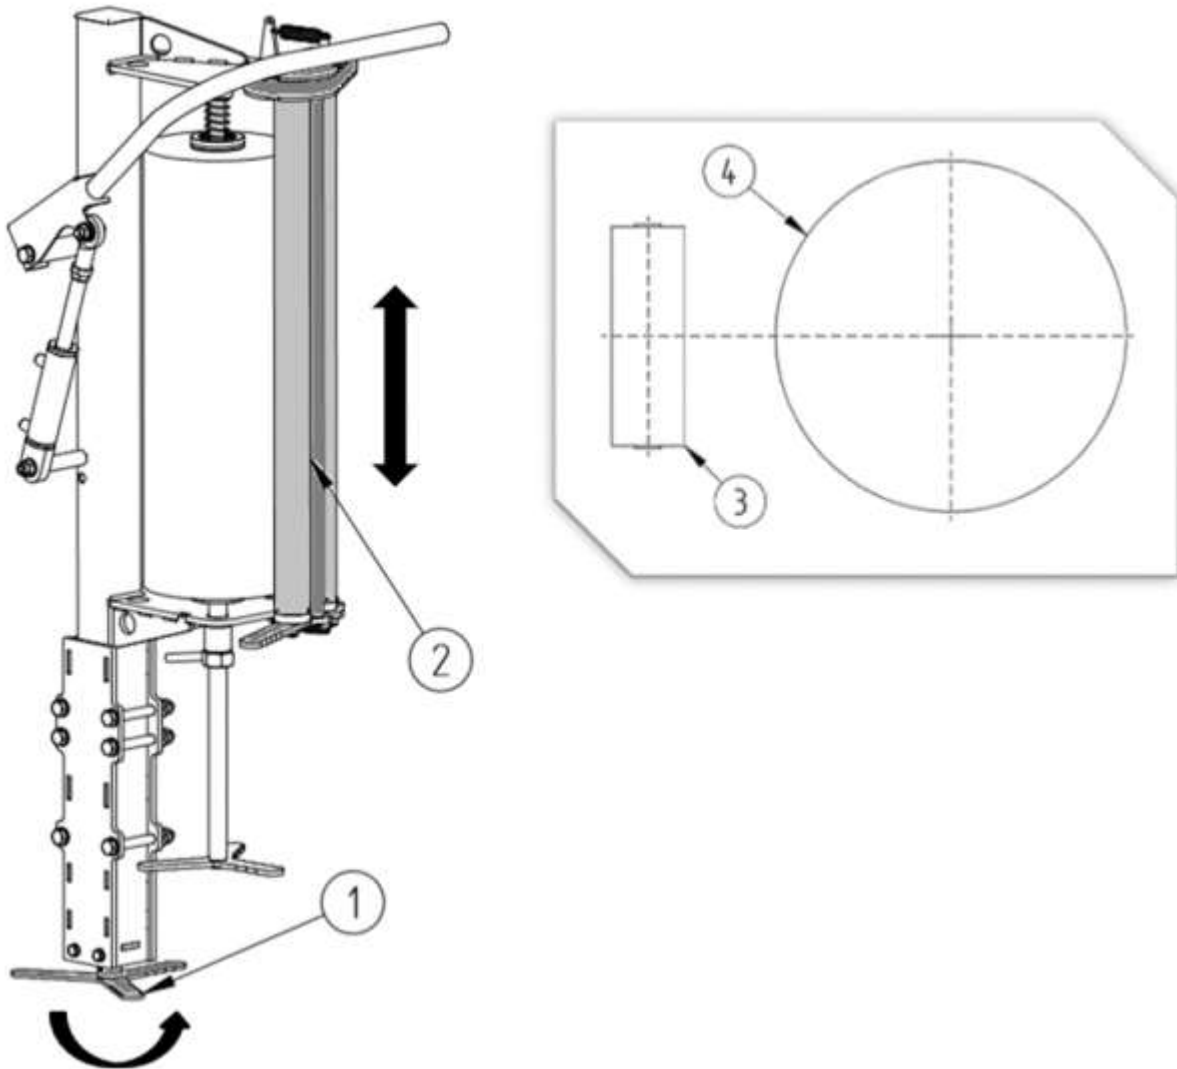

Figure 30 Dispenser height adjustment
1. Loosen the jam nut (2) on the pressure screw (1).
2. Adjust the screw pressure by checking the film resistance (3).
- If the film tension is too high, lower the screw by turning the lever (1) to the left.
- If the film tension is too weak, lift the screw by turning the lever (1) to the right.
3. Tighten the jam nut (2).
Because you can use different film widths and wrap bales of different diameters, it is necessary to set the film dispenser (2) at an appropriate height. The optimised dispenser position is when the centre of the film is at the same height as the centre of the bale. To adjust the height of the dispenser, use the dispenser post turn lever (1) to move the dispenser unit (2) to the optimum position (Figure 30). The dispenser height should be adjusted after the first bale is loaded.